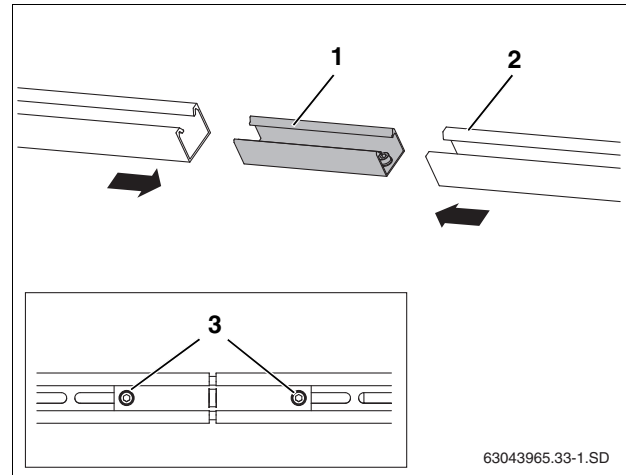

Fig. 28 Connecting horizontal rails
- ▶ Push connector (Fig. 28, [1]) as far as it will go into both rails (Fig. 28, [2]).
- ▶ To lock, tighten both installed M10 threaded studs (Fig. 28, [3]) using a size 5 Allen wrench.